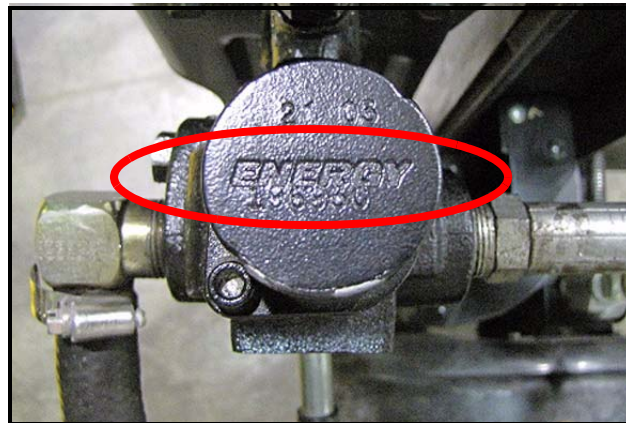

FIGURE 3
6. If the valve has the name “ENERGY” on the end cap, as shown in Figure 3, the valve must be tested. Proceed to the “TEST PROCEDURE” section on Page 3.